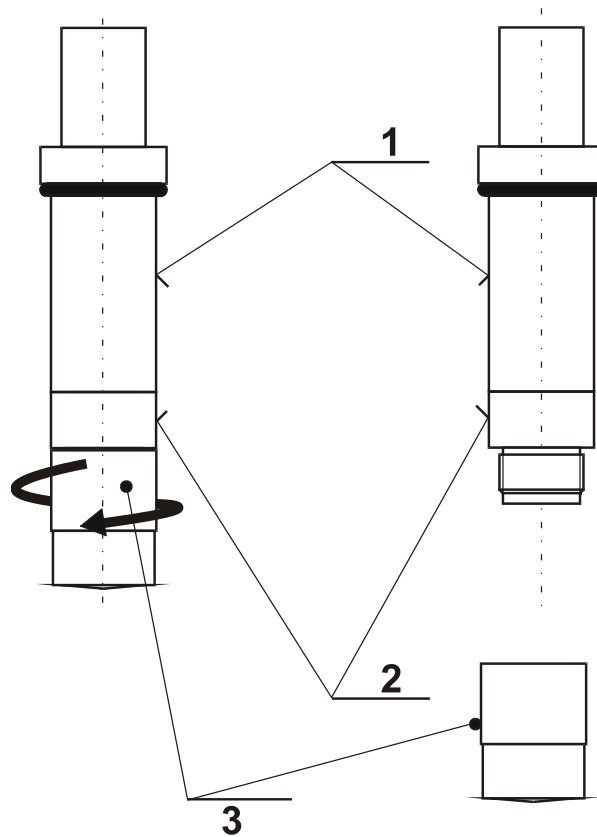

Fig. 1 Sensor CSOT 53 – exchange of membrane head
When putting the sensor into operation or replacing the worn off membrane, observe following procedure (Fig.1:
1. Unscrew the old sensor membrane head (**3** - fig 1.) from the sensor body.